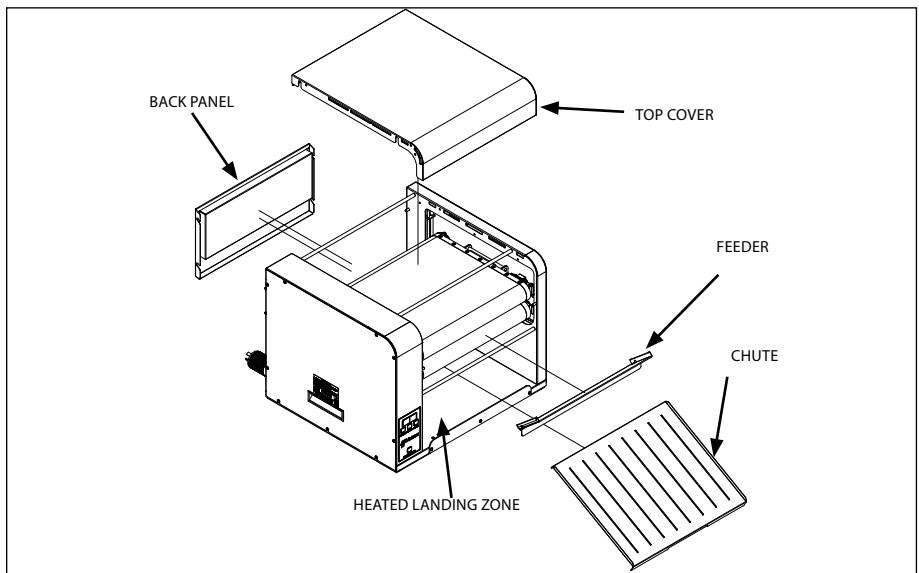

Figure 3. - Components
7. Attach the top cover, feeder and chute (Figure 3).